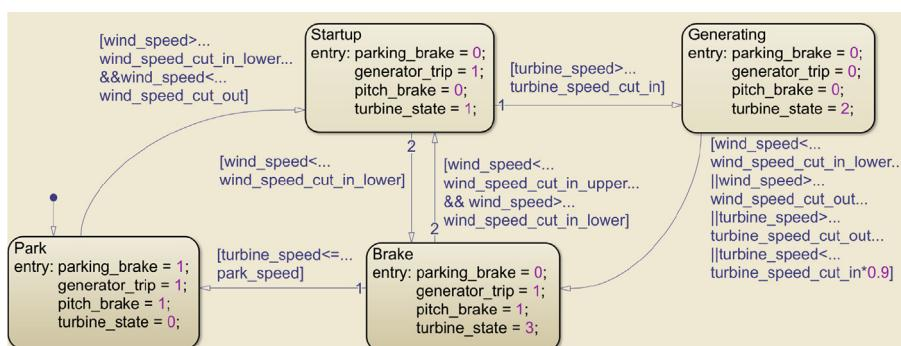
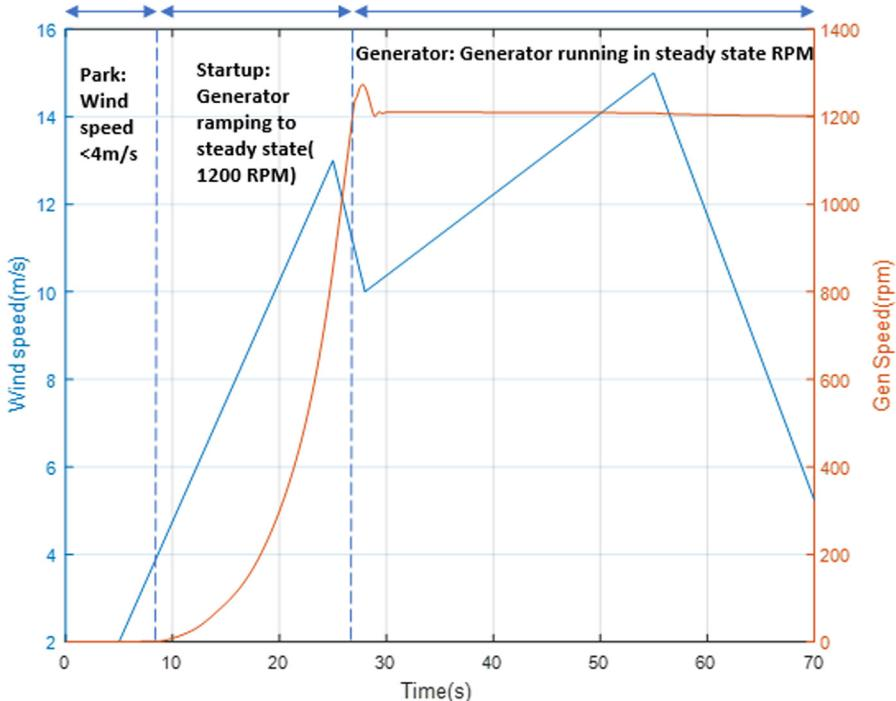

Figure 10.6 States of the wind turbine.
Figure 10.9 Relationship between wind speed and generator RPM.
1. Firstly, the wind speed and wind direction is input to a stateflow logic. The different states for the wind turbine are PARK, STARTUP, GENERATING, and BRAKE. The stateflow always initializes in PARK state. The states can be seen in the model path Wind_Turbine/Main Controller/Wind Input/Turbine Stateflow also shown in Fig. 10.6.
The input wind speed has a direct relationship to the generator RPM as per the stateflow logic shown in Fig. 10.6. It can be observed that when the wind speed is less than wind_speed_cut_in_lower (tuned to 4 m/s), the turbine is PARK mode; hence, the generator RPM is 0. After a few seconds when the wind speed ramps above 4 m/s, the generator RPM starts to ramp as the state is now in STARTUP. The PI control in the Pitch Control subsystem will now generate a pitch command as per the desired target rotor speed, which is set to 1200 RPM. Once the steady state has been achieved, the generator can output power. The generator RPM output plot can be divided into three sections as shown in Fig. 10.9.